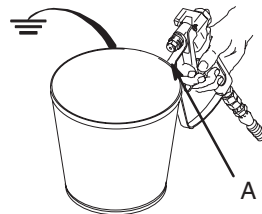

Fig. 4
4. Unlock the trigger safety. Hold a metal part of the gun firmly to the side of a grounded metal pail, and trigger the gun to relieve the pressure. See Fig. 4, A.
To reduce the risk of static sparking and splashing when flushing, always remove the spray tip from the gun, and hold a metal part of the gun firmly to the side of, and aimed into, a grounded metal pail. See Ref. A in Fig. 4.